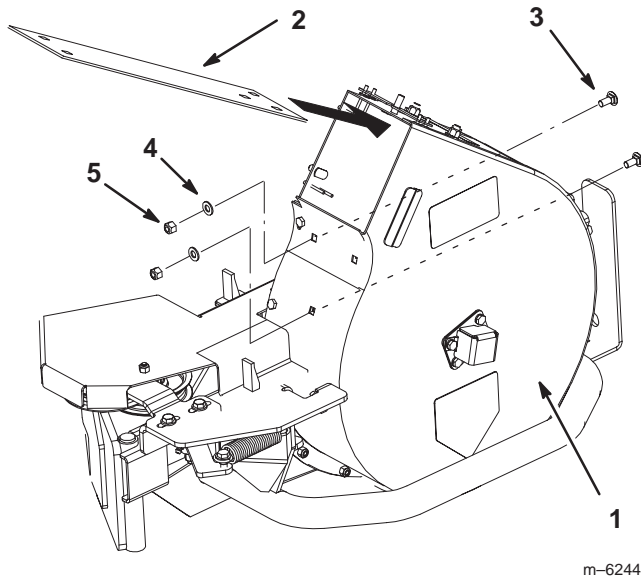

Figure 40
3. Remove the five bolts that hold the blower liner to the blower (Figures 40 and 41).
4. Pull the liner out of the blower (Fig. 40).
6. Install 3 bolts into the rear of the blower and the liner (Fig. 40).